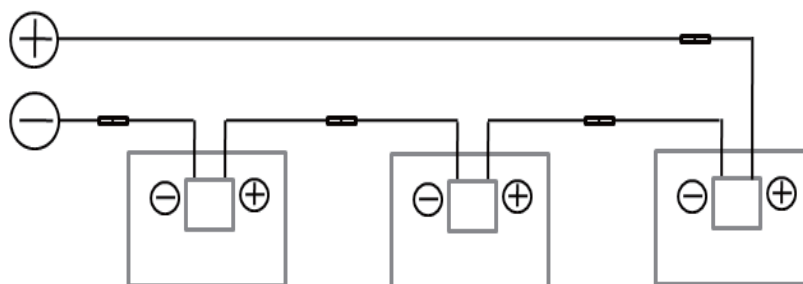

Fig. 10-1 Series Connection
- The Direct Current (DC) generated by the PV system can be converted to Alternating Current (AC) and connected to the public power grid. Different regions may have different policies, laws and regulations to stipulate the installation and grid-connection requirements of PV systems. Therefore, during the design, installation and grid-connection of PV system, please comply with the local policies, laws and regulations.
- In order to ensure the normal running of the system, when connecting modules or loads, please ensure that the polarity of the cable connection is correct. If the modules are incorrectly connected, the bypass diodes and junction boxes may be damaged. PV modules can be connected in series (Fig. 10-1), in parallel (Fig.10-2) and in series-parallel (Fig. 10-3). The number of serial or parallel connections shall be reasonably designed according to the system configuration. Also note that if the number of parallel connections  $\geq 2$ , there must be an over-current protection device on each string assembly.